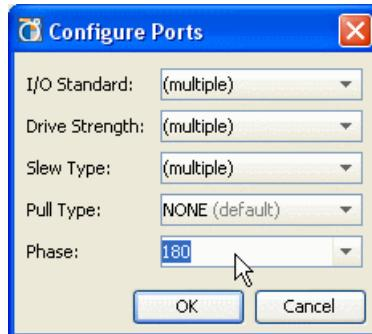

Figure 8-36: Configure Ports Dialog Box
2. In the I/O Ports view, Package Pins view, or SSN view, select **Configure I/O Ports**, as shown in Figure 8-36, page 305.